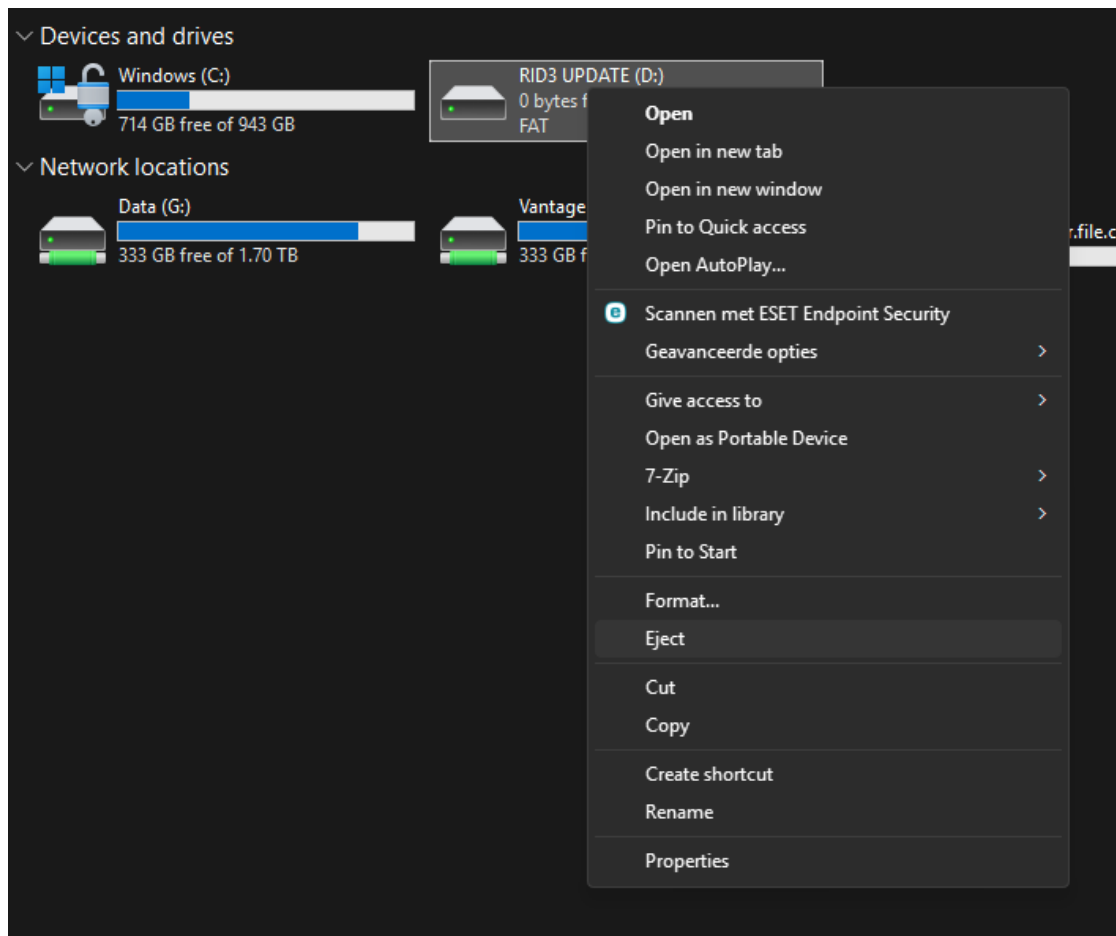

Figure 6 Eject device
12. Safely remove the device and by using the eject-function in Windows Explorer (see Figure 6) and disconnect the RID module from the PC.